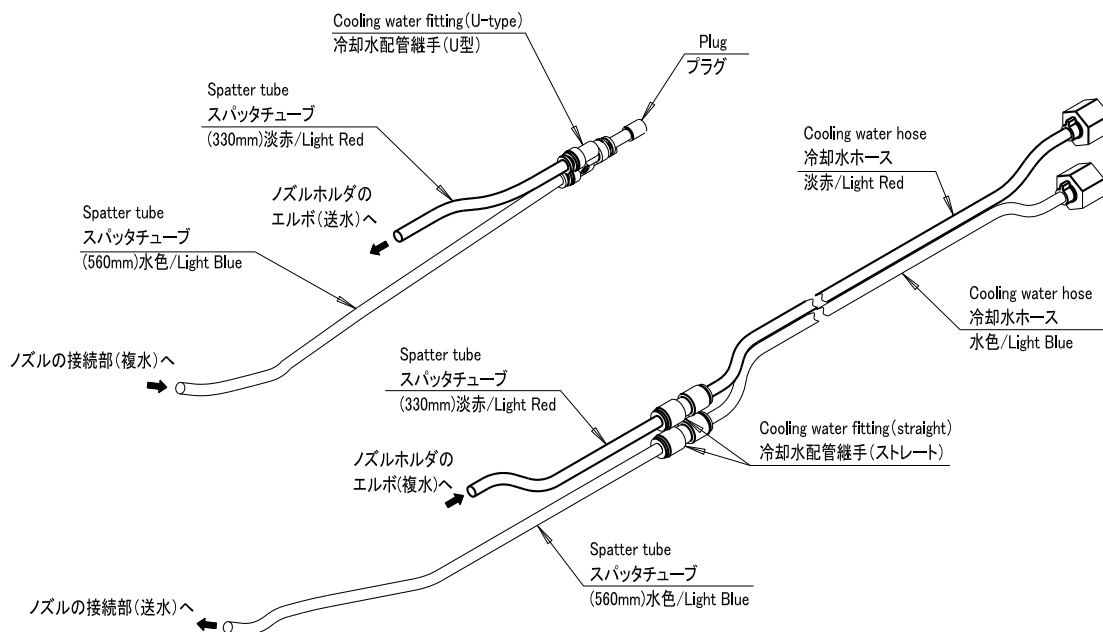

Fig.3.7 Connection of hose (1)
- (2) Create the assembly as shown in Figure 3.7, using the tube created in (1), coolant piping joints (straight type, U-shape type) and plugs.